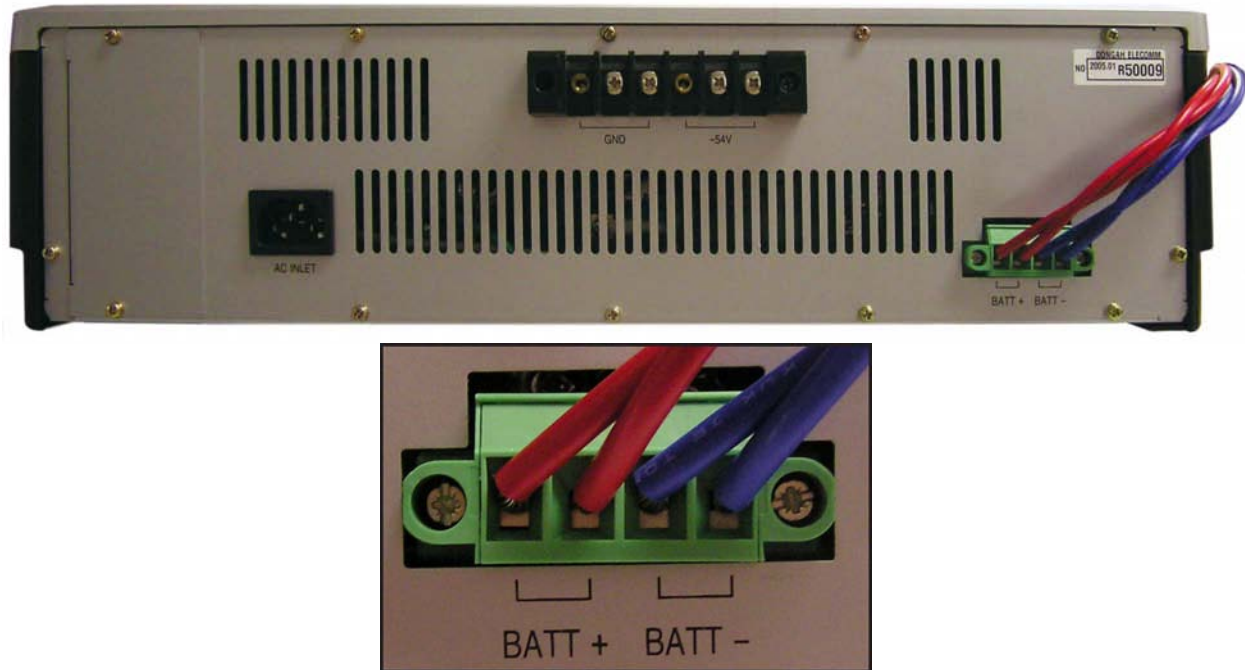

Figure 5.11 Connecting an External Battery
- 2) Connect the green keyed connector into the battery connection port of the OfficeServ 7150. The connector is keyed so you can only insert it in one way. Press it in until it is pushed in all the way (see figure 5.11). At the other end of the battery cable, connect the red wire to the (+) Positive terminal lug of your battery, and connect the blue wire to the (-) negative terminal lug of your battery.